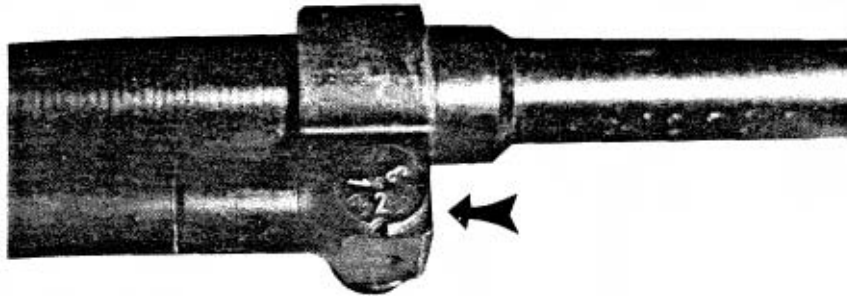

FIG. 3-82. PKT GAS CHAMBER INDICATOR
4. Reassemble weapon and check the gas chamber indicator, usually set at slot 2 (Fig. 3-82).
5. Check the assembled weapon and attach it to the mounting (Fig. 3-82).